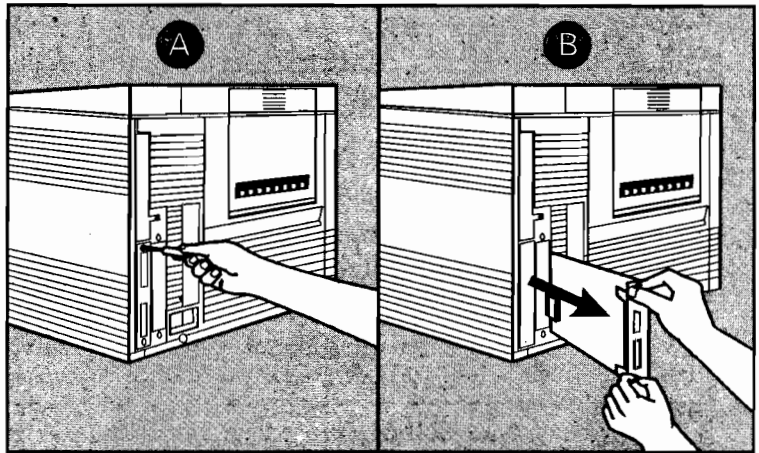

Figure 2-3. Removing the Existing Card
4. Remove the existing adapter card (if any) from the printer and store it in the anti-static bag in which your adapter card was shipped. See Figure 2-3.